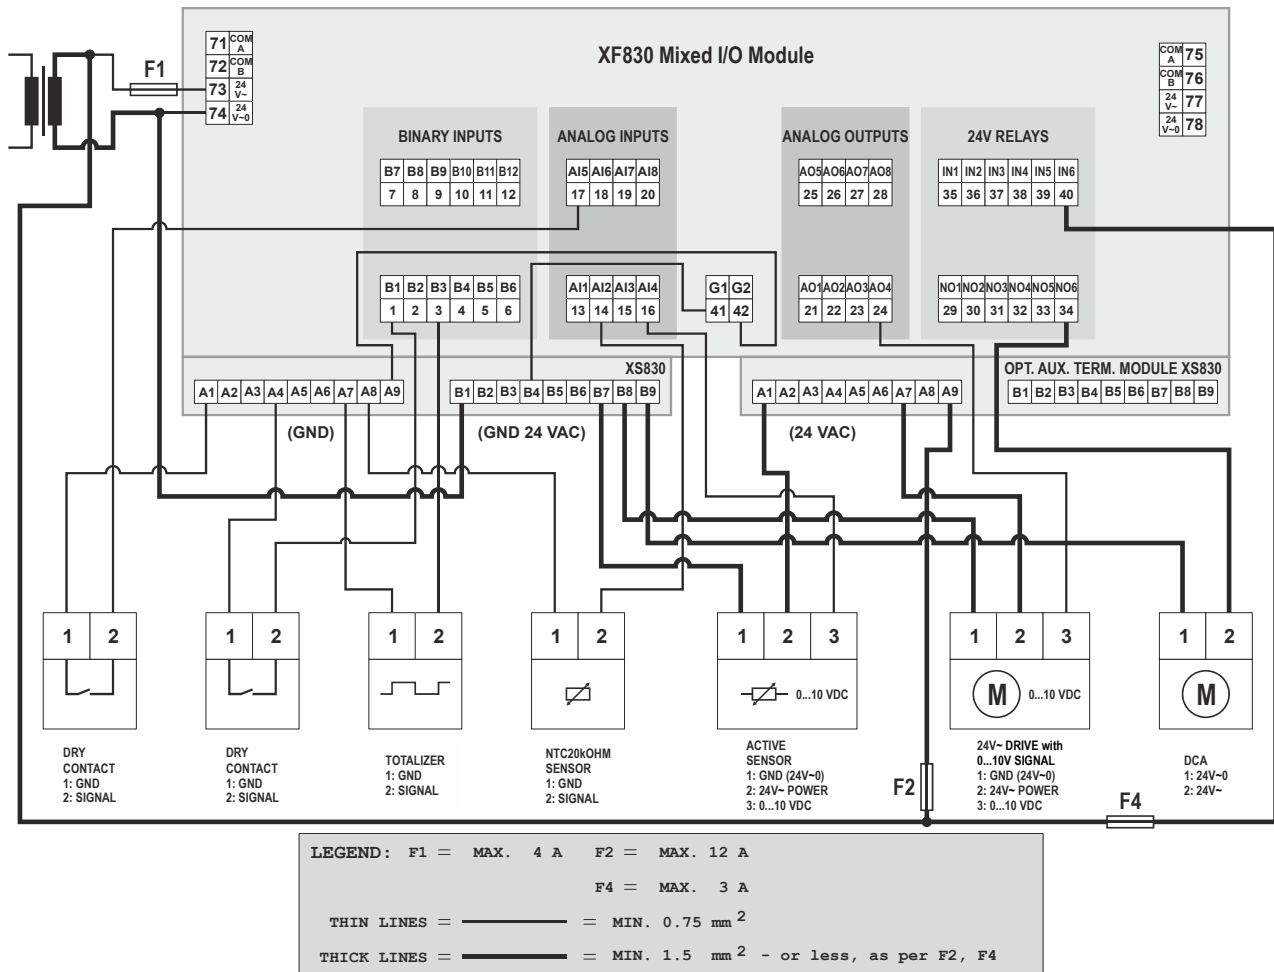
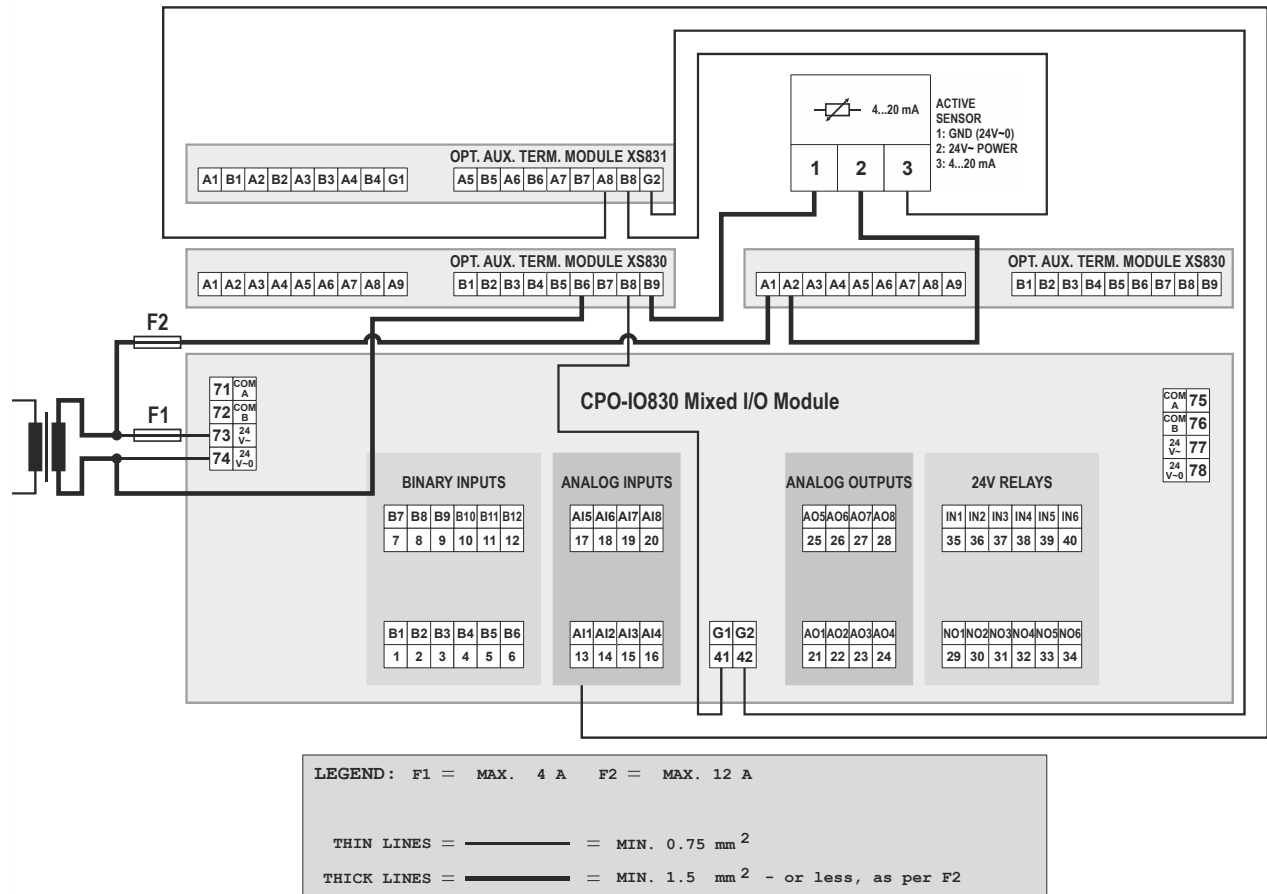

Fig. 63. XF830 Connection example
Fig. 64. CPO-IO830 Connection example (for current inputs)
- Two groups of four pairs of push-in terminals (A1B1, A2B2, ... A8B8, each with a 499Ω resistor) for converting 0...20 mA signals (max. load per resistor = 25 mA) into 0...10 VDC signals, and one push-in ground terminal per group. See also Fig. 63 and Fig. 64.